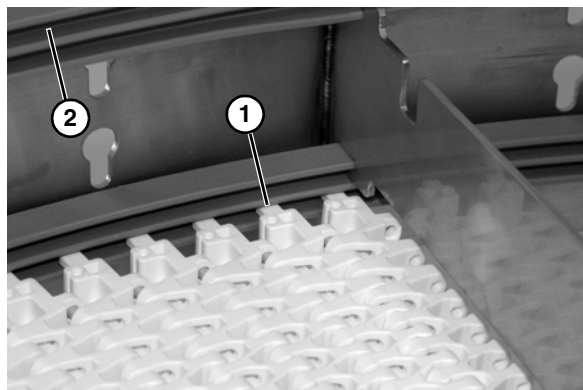

Figure 19
4. Be sure belt tabs are seated in the lower channel of bottom belt guide (Figure 19, item 1) and upper channel of top belt guide (Figure 19, item 2).